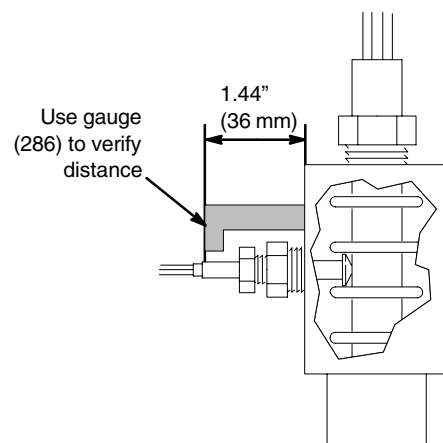

Fig. 16
7. Use needle nose pliers to push the probe into the manifold (253) so it is between two heater element coils, is touching the heater element cord, and protrudes 1.44 in. (36 mm) from the manifold. A gauge (286) can be used to verify this distance. Finger-tighten the packing nut (247a). See Fig. 16.